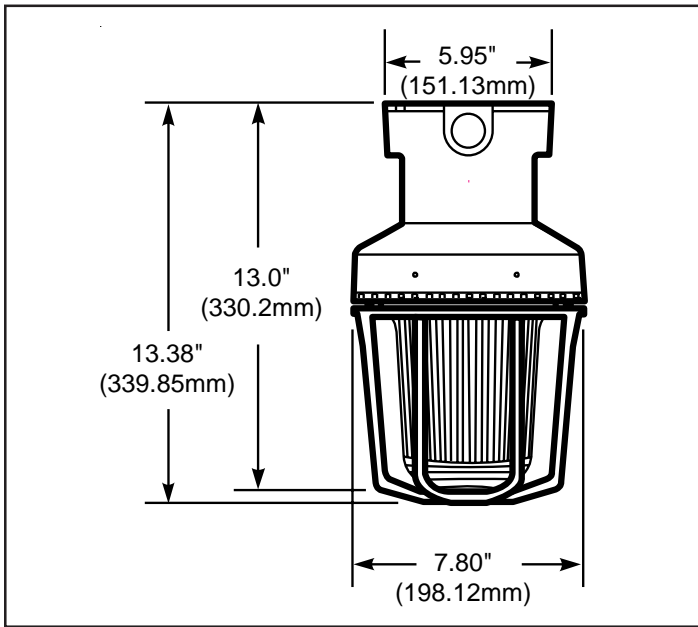

Figure 2. Detail of Ceiling Mounting
- b. **Ceiling Mount Models** (Figures 2 and 5): Unscrew the globe assembly from the ceiling mount box. Mount the ceiling box using appropriate hardware (not supplied) suitable for the mounting surface. Proceed to step 2.